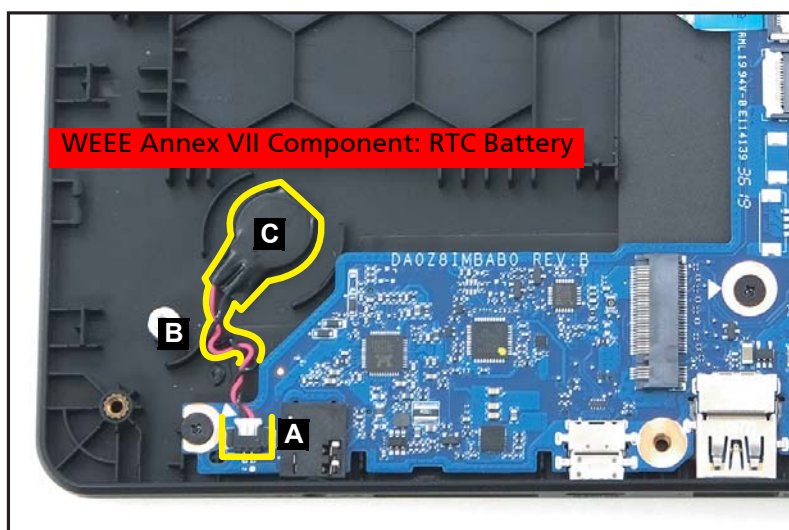

Figure 1-49. RTC Battery Removal
1. Disconnect the RTC battery cable from the mainboard connector (A) (Figure 1-49).
2. Unroute the RTC battery cable from the cable guide (B) (Figure 1-49).
3. Using plastic tweezers, carefully pry to detach the adhesive tape underneath the RTC battery (C). Then remove the RTC battery (Figure 1-49).